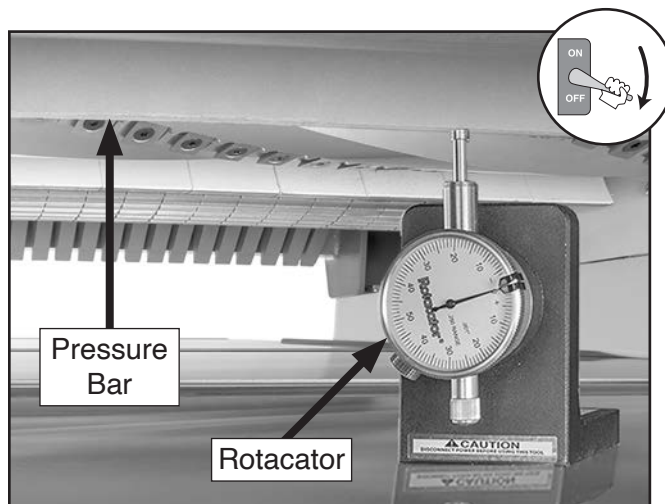

Figure 100. Rotacator placed underneath pressure bar (shown from rear of machine).
2. Position Rotacator/dial indicator under left side of pressure bar, as shown in **Figure 100**.